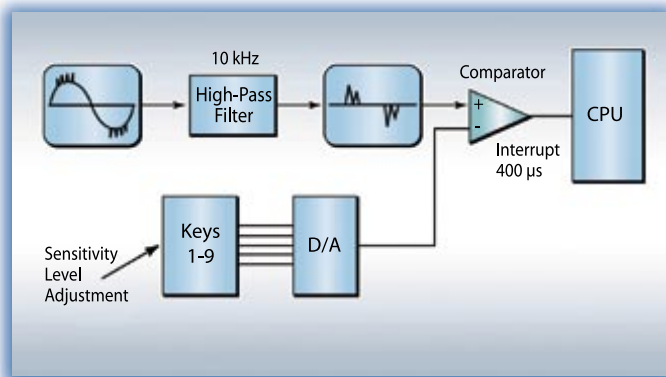

Figure 2. An Arc Detector
Associated Research's (AR) arc detection circuitry consists of a high pass filter circuit that responds only to frequencies greater than 10 kHz. These high-frequency signals are fed into a comparator and checked against an operator-programmed sensitivity level selected during the test setup (Figure 2).